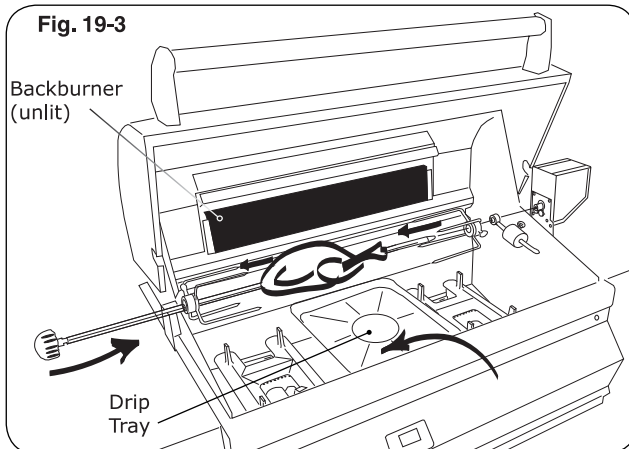

Fig. 19-3
4. Slide left meat holder onto rod as shown in Fig. 19-3 and tighten screw.
5. Slide meat onto rod and into holder (Fig. 19-3).
6. Slide right meat holder onto rod and into meat (Fig. 19-3). Tighten screw.